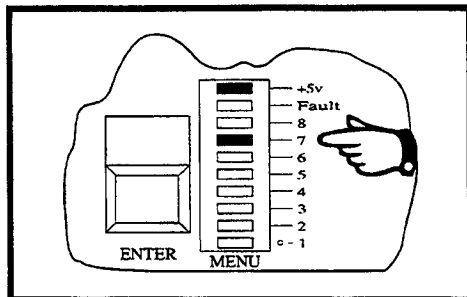

Figure 3-10
- (e) Press the blue **FUNCTION** key on the CPU card. The **Menu** display on the CPU card should cease scrolling and the segment labelled **1** should illuminate. Continue to press the **FUNCTION** key until the segment **7** illuminates. See Figure 3-10.